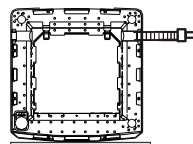

Figure 2
2. Dismantle the rear cover of the washing machine, as indicated in Figure 2.